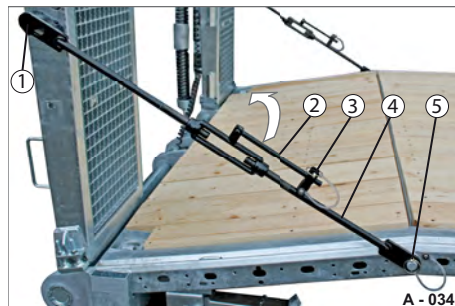
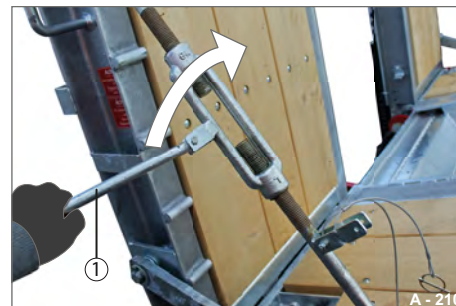

Fig. 44 Unlocking the securing tensioner
Fig. 45 Releasing the securing tensioner
► Pull out the locking pin (Fig. 44/3) and swing the lever (Fig. 44/2) upwards.
► Turn the lever (Fig. 45/1) until the securing tensioner (Fig. 44/4) has been relieved of strain. The securing tensioner is slack and can be removed at the top from the gudgeon (Fig. 44/1).